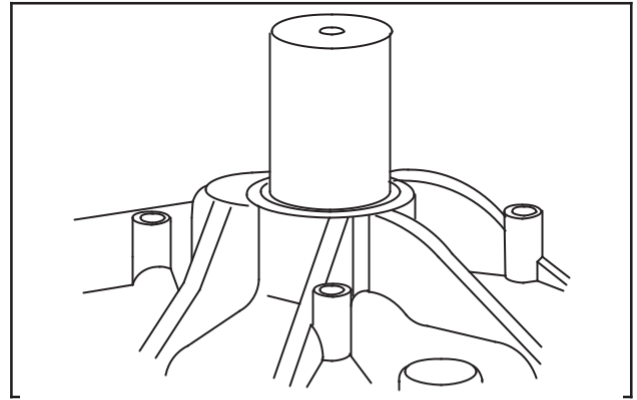

Fig. 7 – Install Mag Bearing
1. Place cylinder on cylinder support, Tool #19227 with large opening facing bearing, Fig. 7.